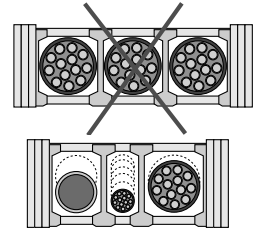

Figure 7
3. Arrange cables/hoses in the compartment so as to allow adequate movement. The largest cable or hose in the chain should have 20% clearance of the inside height and the total of all cables/hoses should have 20% clearance of the inside width (Fig. 7).